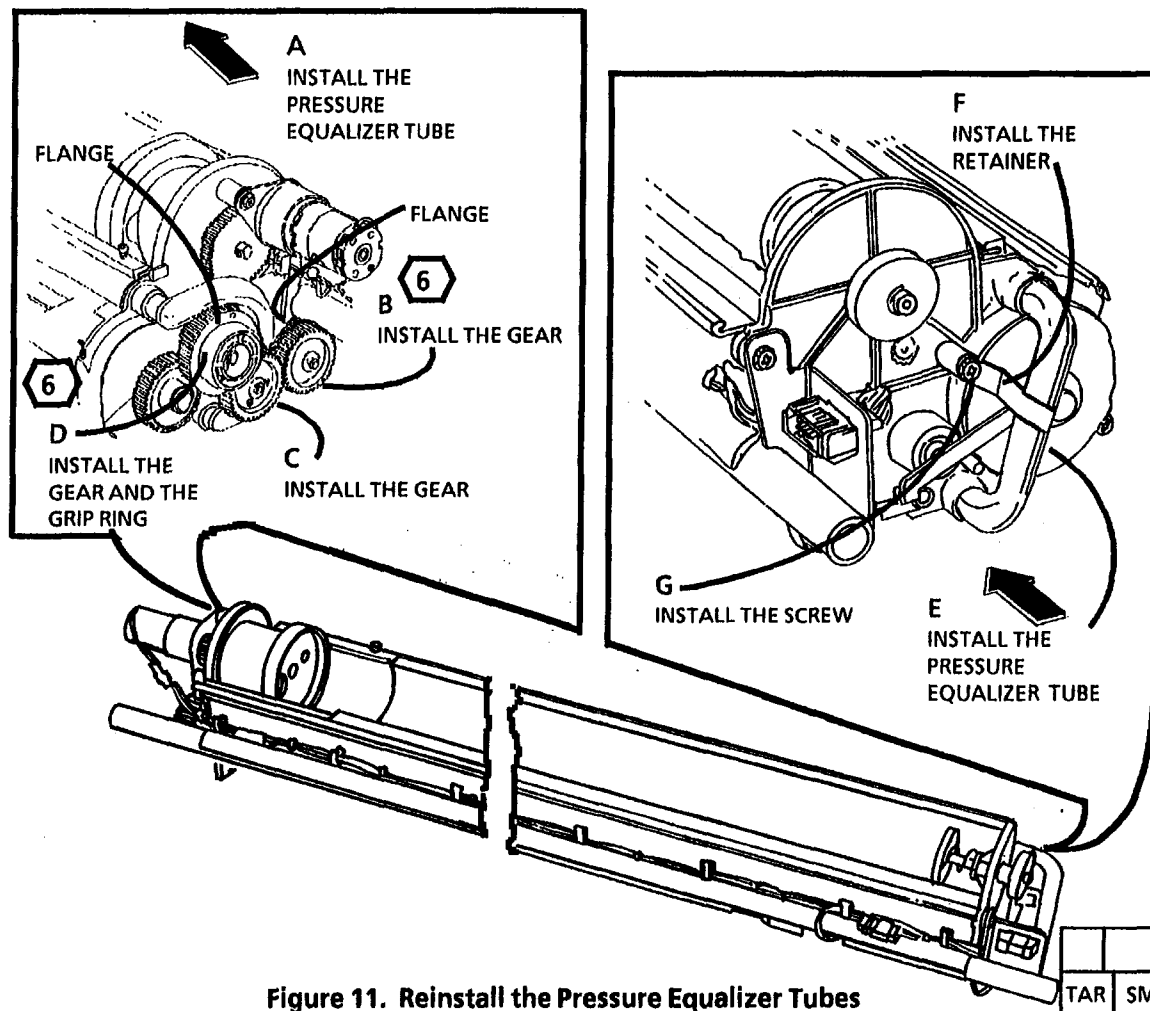

Figure 11. Reinstall the Pressure Equalizer Tubes
18. (Figure 11): Reinstall the Pressure Equalizer Tubes.